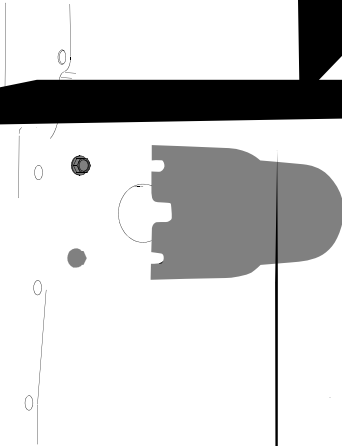

Figure 23
- Loosen the two screws on the cover. Refer to Figure 23.
- Slide the cover to the right until the screws are free of the cover. See Figure 23.
- When finished using the rear PTO, slide the cover fully onto the shaft; then slide the cover to the left until the slots are underneath the screw heads. Tighten the screws to secure the cover. Refer to Figure 23.